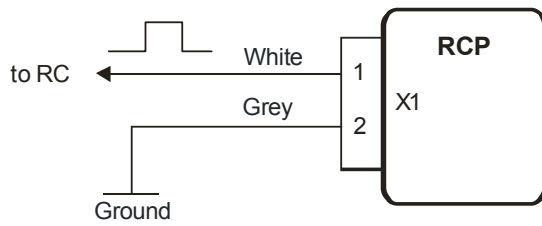
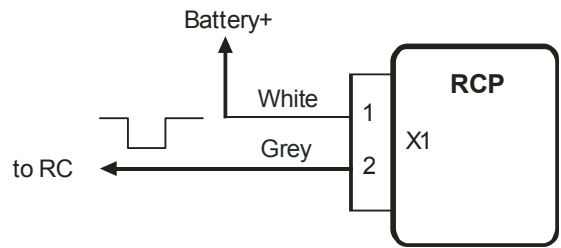

Figure 4
Figure 5
- The fig.4 presents the scheme to turn the heater off by the impulse of positive polarity. The fig.5 presents the scheme to turn the heater on by the impulse of negative polarity.